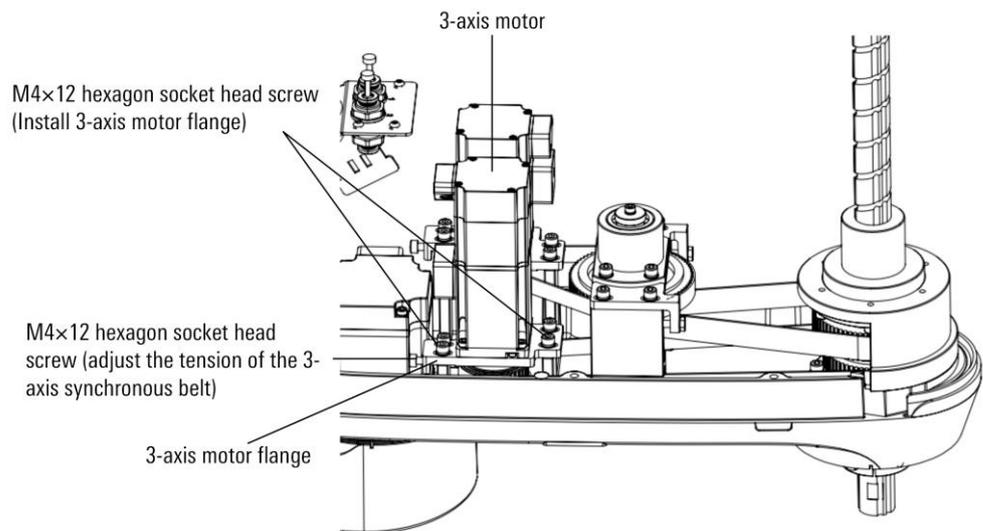

Figure 8-7 Diagram of disassembling 3-axis motor flange
- Step3. Use an Allen wrench to remove the four M4x12 inner hexagon socket head screws that fix the flange of the 3-axis motor, and then slowly loosen the a M4x12 inner hexagon socket head screw that adjusts the tension of the 3-axis synchronous belt. Take off the flanges of the 3-axis motor and the 3-axis motor together, as shown in Figure 8-7.